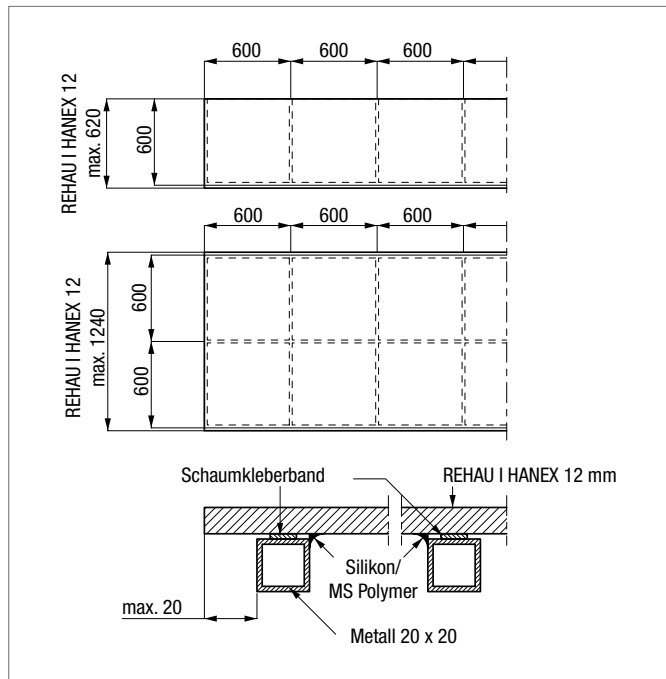

Abb. 6-1 Surface fastening of REHAU I HANEX 12 mm
- REHAU I HANEX 12 mm on a frame construction 600 x 600 mm made of plywood strips 25 x 100 mm glued and dowelled to make them waterproof, aluminium or metal frames 600 x 600 mm made from a profile cross-section min. 20 x 20 mm or on a continuous substrate P3 min. 25 mm (Abb. 6-1).